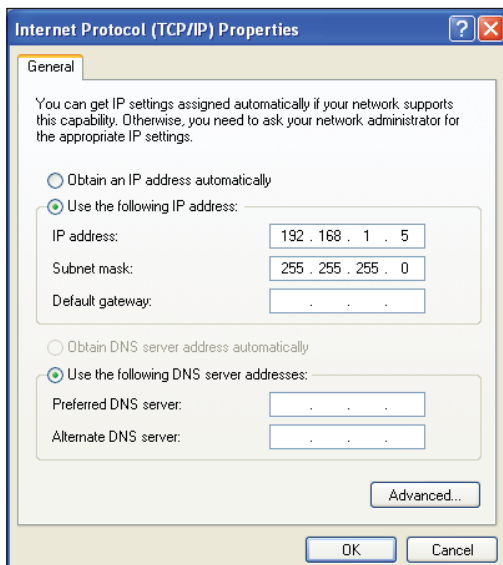

Figure 33: Internet Protocol Properties Window
6. Select the radio button in front of **Use the following IP address (Figure 33)** and write down the current defaults so that you can re-enter them when you finish configuring the PT-Link II and then type in the following information:
7. Select the radio button in front of **Use the following IP address (Figure 33)** and write down the current defaults so that you can re-enter them when you finish configuring the PT-Link II and then type in the following information: